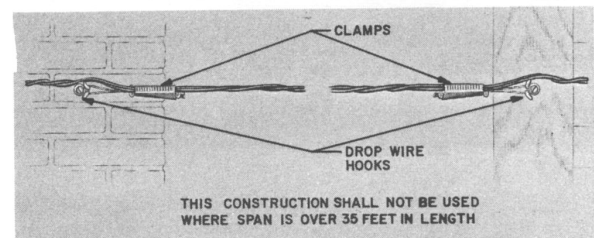

Fig. 12 — Span Less than 35 Feet in Length
9.04 Where only a few bridle wires will be run and the span is 35 feet or less in length, the construction shown in Fig. 12 may be employed.